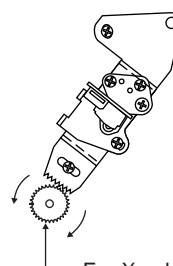

Figure 4-33.
Move the A/C head with the X value adjustment gear driver (JiGDRIVER-6) by the method shown in Figure 4-33, and adjust the A/C head so as to get the maximum envelope waveform. (Note: When the A/C head is adjusted, adjust so that the maximum envelop waveform is obtained nearest the position of initial setting made in Page 20.)
- ③ Move the A/C head with the X value adjustment gear driver by the method shown in Figure 4-33, and adjust the A/C head so as to get the maximum envelope waveform. (Note: At this time adjust so as to get the maximum envelope waveform nearest the A/C head position which has been set in case of X value rough adjustment as stated in Page 22, 3- ②.)
- ④ Tighten finally the screws ① and ②. Be sure to tighten at first the screw ① and then the screw ②. Final tightening torque is 0.6N·m (If the screw ② is tightened first, the X value may deviate.)
- ⑤ Adjust the playback switching point (Refer to the electric adjustment method.)
- ⑥ Playback the self-picture-recorded tape, and check the flatness of envelope waveform and sound.